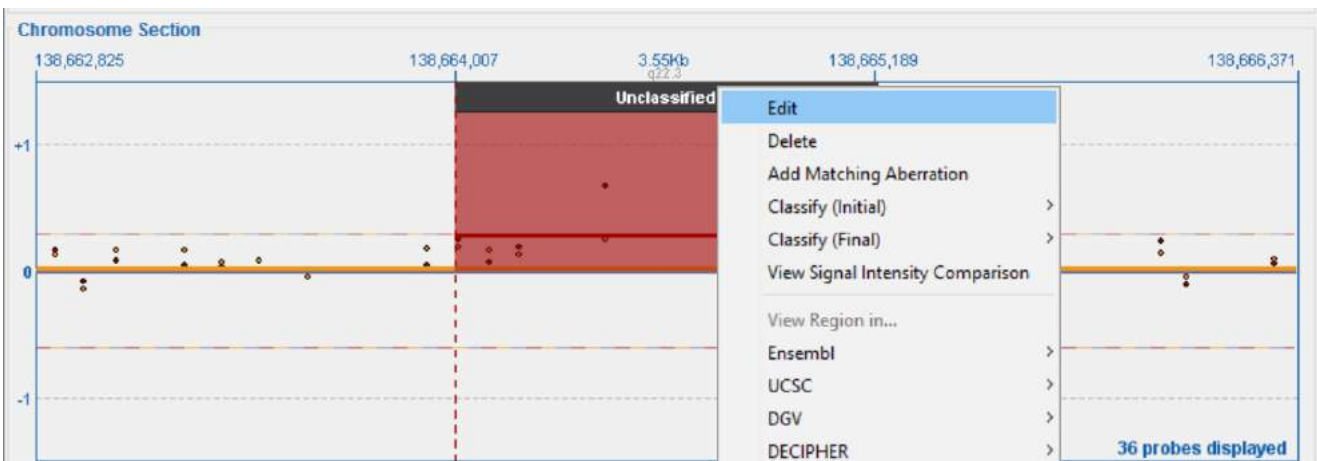

Figure 38: Edit Aberrations Details window access via the Chromosome Section plot.
- c. Locate the aberration in the **Chromosome Section** plot. Right-click on it and choose **Edit** from the drop-down menu (Figure 38).